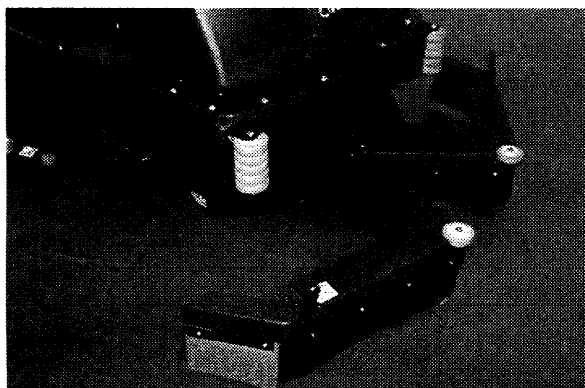

Figure 41
1. Hinge open skirts to access brakes (Fig. 41).